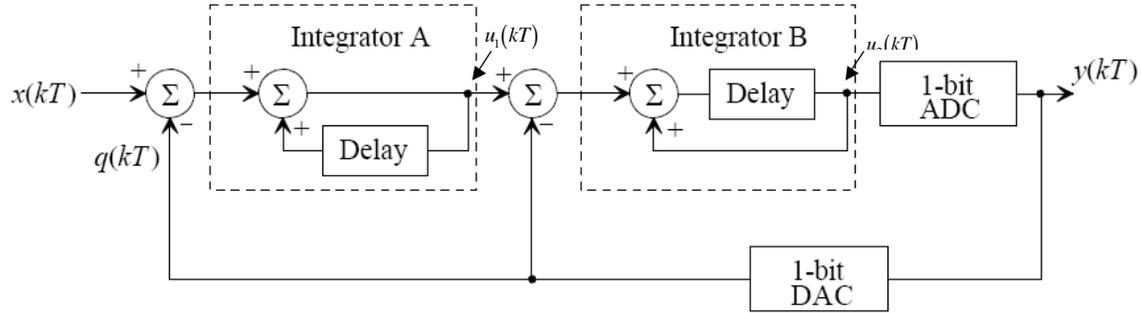

Figure 29.49 A second-order, sigma-delta modulator.
29.38 Prove that the output of the second-order  $\Sigma\Delta$  modulator shown in Fig. 29.49 is,